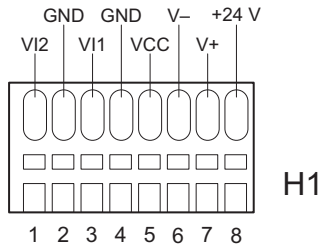

Figure 4-1. XP8600 Wago Connector H1
5. Connect the resistor end of the load circuit to V/I1 on header H1. Connect the LED to GND on H1. Figure 4-1 shows the pins on Wago connector H1. Alternatively, the volt-ohm meter may be connected between V/I1 and GND.